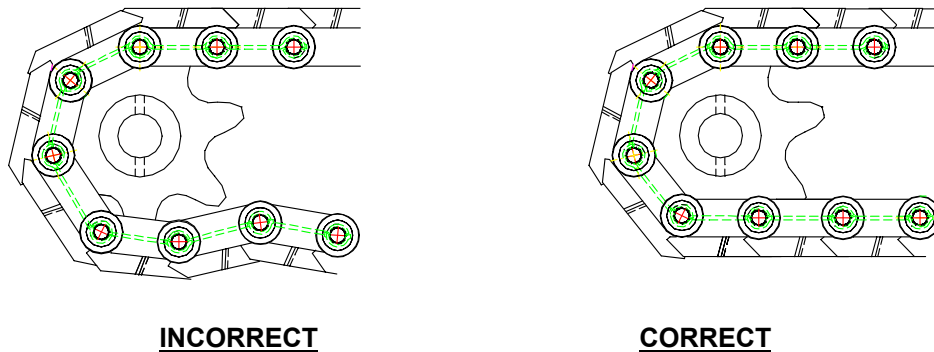

FIG. 1
- Belt Too Loose: Belt Slack at exit point of the drive sprocket before re-entry into frame. (See fig. 1).
- Uneven Tension (side to side): (1) Belt tends to track to one side (2) Excessive wear on outside of side wings.